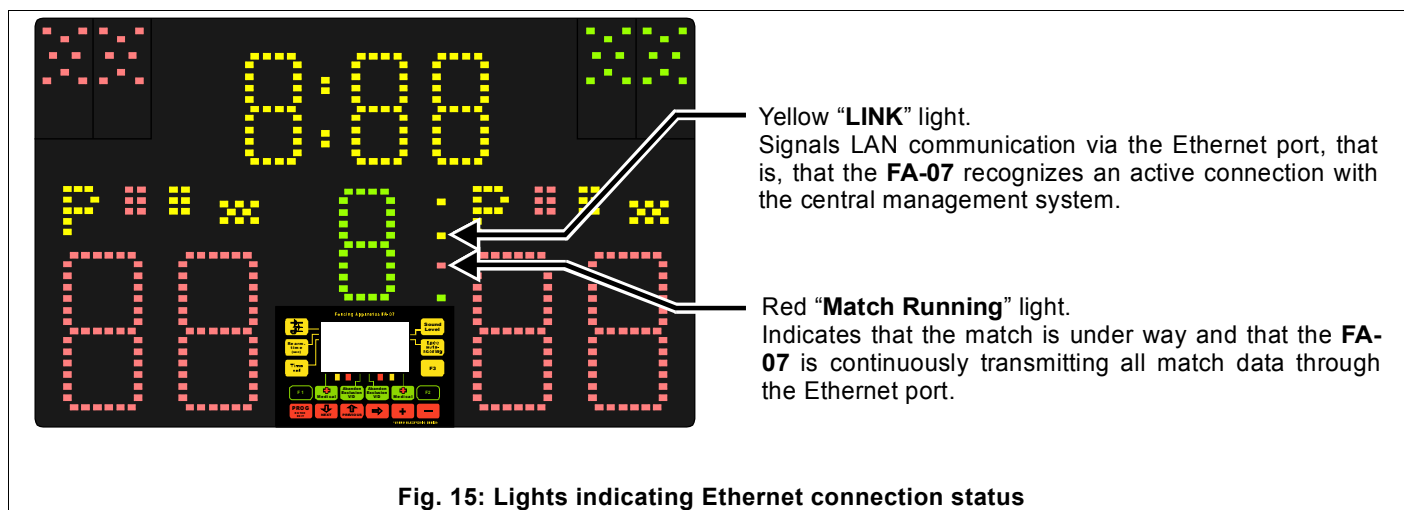

Fig. 15: Lights indicating Ethernet connection status
2. Announcing the start of the match to the central system by the referee (via the keys [Alt-1] + [BEGIN]). The **FA-07** now begins to uninterruptedly send all of its data so that the central system can gather and transmit it to other visual display screens and on the Web. When a match is underway the "Match Running" light (see Fig. 15) will appear on the **FA-07**.
To show that there is an active connection status with the central system, the yellow LINK light on the **FA-07** will switch on (see Fig. 15); the piste number assigned and communicated to the **FA-07** will appear on the graphic display panel so that its correspondence can be verified.
When the **FA-07** recognizes that connection via LAN is active, the yellow LINK light (see Fig. 15) will switch on and the piste number associated to the **FA-07** will appear on the graphic display panel.
If the **FA-07** has received and is displaying the data for a new match (e.g., fencers' names, etc...), the referee can communicate the start of the match to the central system by pressing the [Alt-1] + [BEGIN] keys on the remote control. From that moment onwards the **FA-07** continuously transmits data via LAN and the "Match Running" light will switch on (see Fig. 15) to indicate that the match is underway.